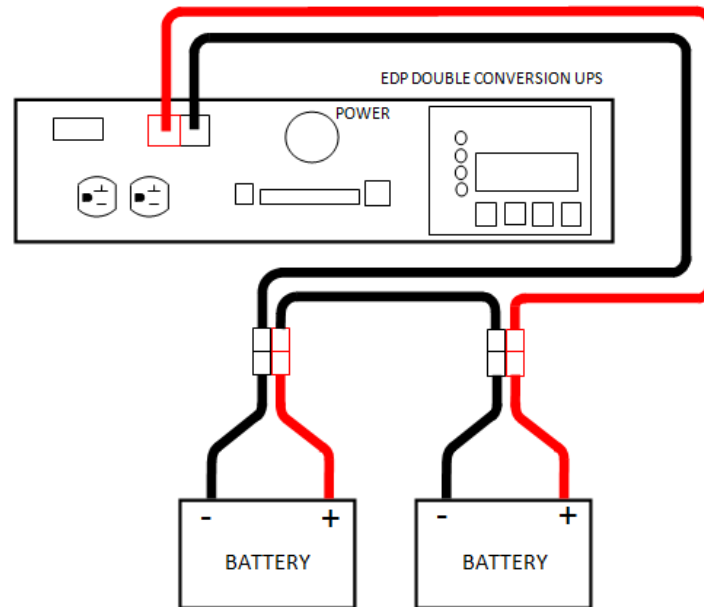

Fig. 4-3: 1kVA EDP model, 24VDC Battery Harness Kit
1. The 1.0kVA system uses a 24VDC battery system. Refer to figure 4-3 when installing the battery harness for this system. **NOTE:** Follow diagram as pictured or system damage may occur.